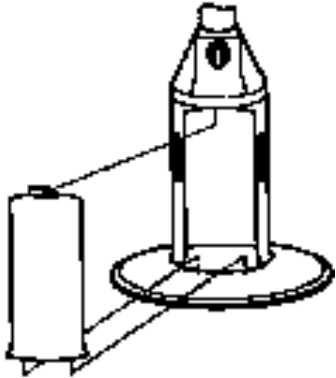
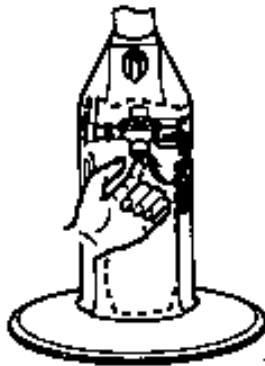

Fig. 1
Fig. 2
- Remove base assembly door as show in Fig. 1. Lift and rotate gas pressure regulator outwards as show in Fig. 2.